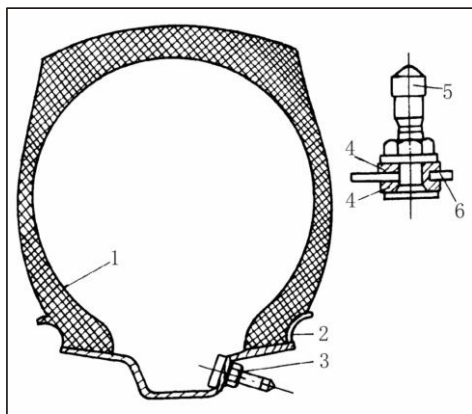

Figure 4-5 Tubeless tire
2. Tubeless pneumatic tire is adopted for the wheel (as is shown in Figure 4-5). There is an air barrier made of specially formulated thick rubber on the inner wall of the tubeless tire, providing a good driving safety with tubeless tire. When the tire is punctured by some sharp body, the air barrier will wrap tightly around the sharp body to prevent leakage for a long time. Even when the sharp body is pulled out, owing to the action of air barrier, the air pressure will be maintained temporarily, so that normal driving will not get affected. Due to puncture resistant, the repair rate of this tire is quite low. For wheel with an inner tube, due to friction and slippage between inner tube and tire, leakage of inner tube occurs immediately after puncture, as a result, the vehicle can not move normally.